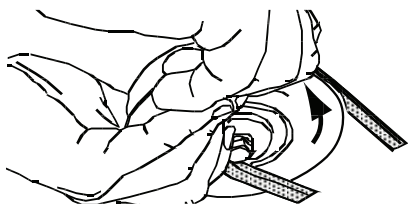

Figure 55
9. Pull the right side of the belt and place the narrow "V" side of the belt into the PTO pulley. See Figure 55.